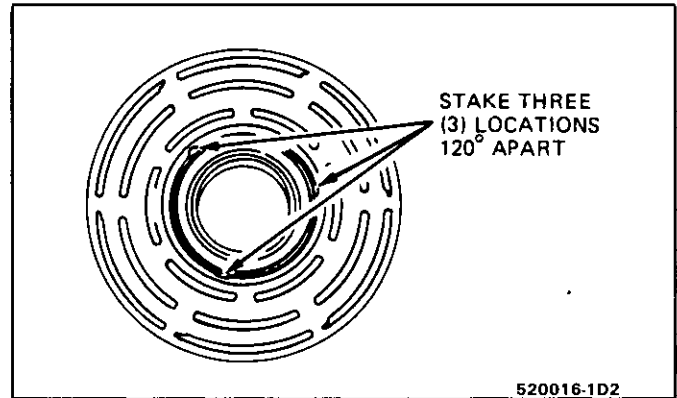

Fig. 16 Bearing Staked in Place
The stake metal should not contact the outer race of the bearing to prevent the possibility of distorting the outer race. Stake three (3) places 120° apart as shown in Fig. 16.